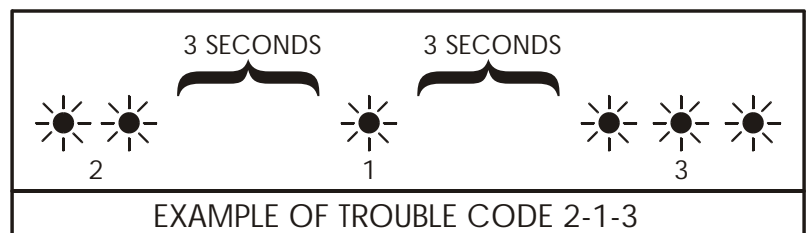

Figure 2
Faults are recorded in the Transmission Control Module (TCM) memory, in the form of Diagnostic Trouble Codes (DTC). Codes can be displayed manually using the LED Indicator on the Volvo diagnostic unit. The diagnostic unit is located at the right front of the engine compartment, as shown in Figure 1. The diagnostic unit is equipped with an LED Indicator, Function Selector Cable and Activation Button, as shown in Figure 2. Diagnostic unit output socket number 1 is used to retrieve TCM diagnostic codes, as shown in Figure 2. Use the following procedure to retrieve (DTC's).
- (1) Turn the ignition switch to the "OFF" position.
- (2) Remove the Function Selector Cable from its storage cavity, and install it into diagnostic unit output socket number 1, as shown in Figure 2.
- (3) Turn the ignition switch to the "ON" position.
- (4) Depress the Activation Button and keep depressed for more than one second, but not more than three seconds. Refer to Figure 2.
- (5) Observe the LED Indicator on the diagnostic unit, and count the number of flashes to determine the *first* Diagnostic Trouble Code stored in the TCM memory. All codes contain three digits (Example: 2-1-3). Since all codes have three digits, each code requires three series of flashes on the LED Indicator. Example is shown in Figure 2.
- (6) Since only one DTC can be retrieved with one push of the button, depress the Activation Button again to determine if any additional DTC's have been stored in the TCM memory.
- (7) Read and record all Diagnostic Trouble Codes, pushing the activation button as many times as necessary, until the first code returns to the display.
- (1) Ensure that the Function Selector Cable is still located in diagnostic unit output socket number 1, as shown in Figure 2, and the ignition switch is in the "ON" position.
- (2) Depress the activation button, and hold down for at least five seconds, and watch for LED indicator response. The LED indicator should go out three seconds after the button is released.